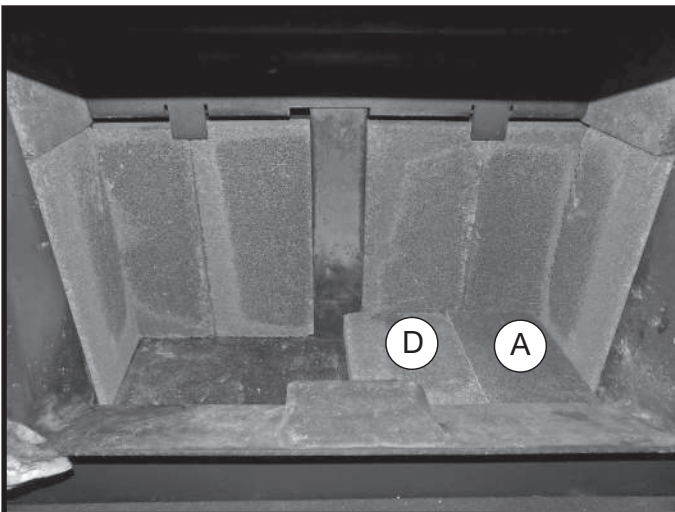

Figure 27: (A) and (D) bricks on firebox floor.
5. The four floor bricks consist of two different sizes. One (A) brick and one (D) brick (Figure 27) should occupy each half of the floor space. After that, there is no particular order with which they must be arranged.